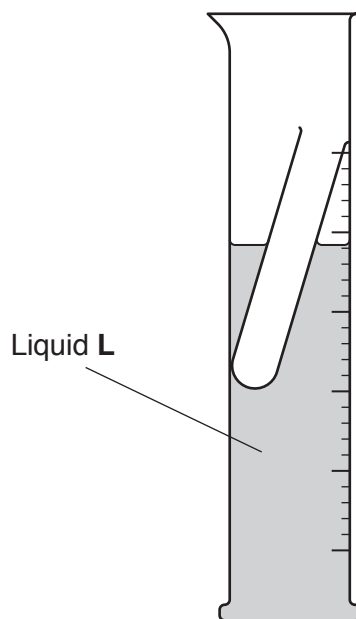

Fig. 4.1
- (v) Carefully lower the test-tube into the measuring cylinder of liquid **L** from (a) until the test-tube is floating as shown in Fig. 4.1.